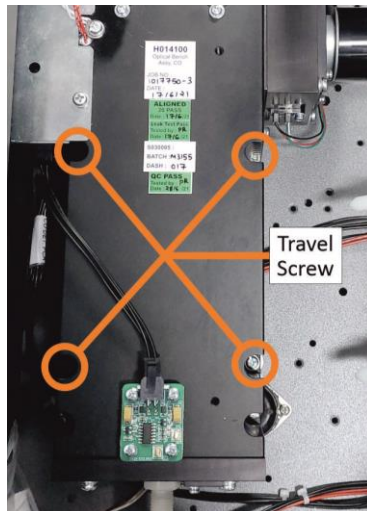

Figure 37 – Travel Screw Locations
2. Refer to Figure 37. Remove the travel screws from the measurement cell (store in a zip lock bag within the analyser).
6. Refer to Figure 37. If transporting the instrument, replace the travel screws.